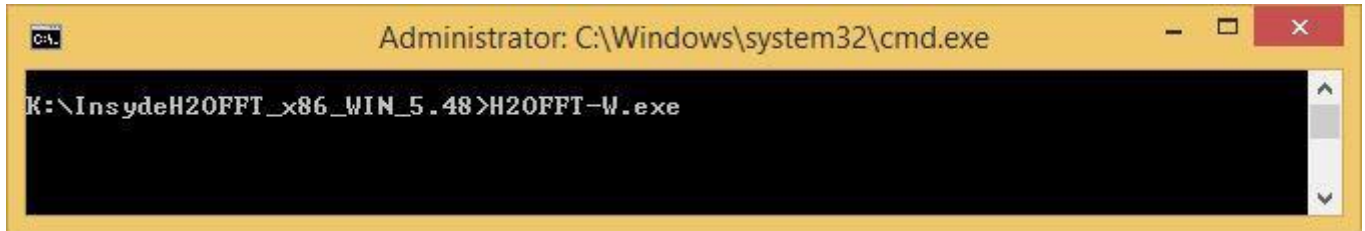

Figure 3-4. Run H2OFFT-W in cmd.exe
2. Key in the folder which H2OFFT-W.exe in (Figure 3-4).